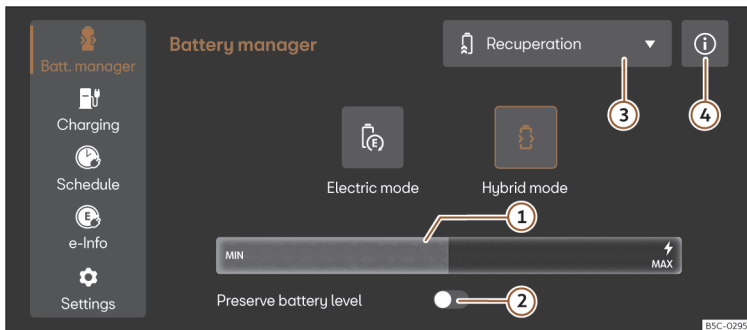

Fig. 123 In the infotainment system: Battery manager menu
- Select **Electric Mode** or **Hybrid Mode** in the infotainment system. Further information about the operating mode can be found in >>> **Fig. 123** ④.
Key to >>> **Fig. 123:**